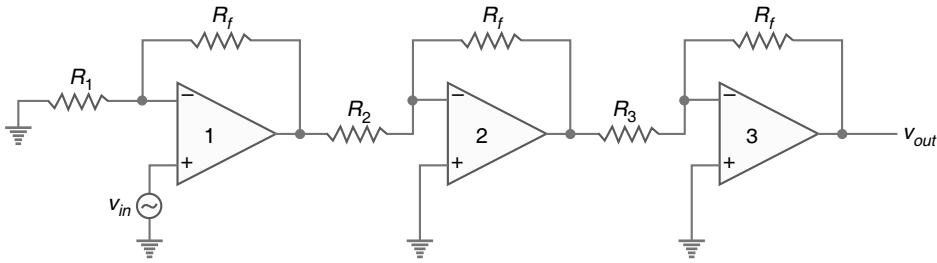

Fig. 23.63
When a number of OP-amp stages are connected in series, the overall voltage gain is equal to the product of individual stage gains. Fig. 23.63 shows connection of three stages. The first stage is connected to provide noninverting gain. The next two stages provide inverting gains.
**Example 23.38.** Fig. 23.63 shows the multi-stage OP-amp circuit. The resistor values are :  $R_f = 470 \text{ k}\Omega$  ;  $R_1 = 4.3 \text{ k}\Omega$  ;  $R_2 = 33 \text{ k}\Omega$  and  $R_3 = 33 \text{ k}\Omega$ . Find the output voltage for an input of  $80 \text{ }\mu\text{V}$ .